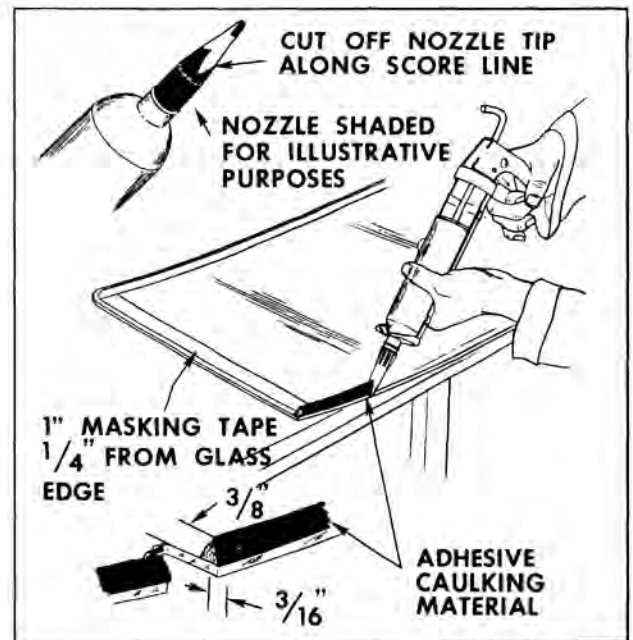

Fig. 16-311 Caulking Application (Extended Method)
11. Cut off tip of one nozzle along score line. (Fig. 16-311) This nozzle will be used to apply bead of adhesive caulking material to glass. Cup tip off other nozzle at a 45° angle 1" below end of nozzle. This nozzle will be used to apply "smear bead" of adhesive caulking material to pinchweld flange.
15. Positioning the gun and nozzle as shown in Fig. 16-311, carefully apply a smooth continuous bead of caulking material 3/8" high by 3/16" wide at base completely around inside edge of glass. When material in first tube is dispensed, quickly insert second tube and continue application of bead. After application, check bead and fill all voids and air bubbles.